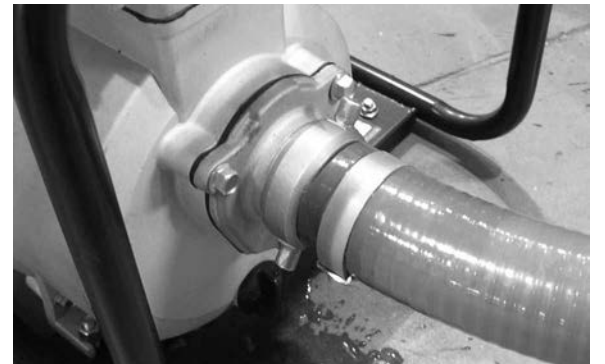

Figure 7
This water pump does not include water hoses and you will need to purchase 2 hoses of the required length having a diameter of 2". It is required to get a reinforced hose with or without 2" NPT to assemble to the inlet (2" NPT hoses do not require hose adaptors, see Fig.7), a non-reinforced hose will collapse on itself from the suction force and prevent water flow, which could cause damage to the engine and water pump machine seal.
- 1) If you purchased a 2" NPT reinforced hose, screw it onto the inlet thread as shown in Fig.7.
If this water pump is used to pump water from a river, it is very important to install the strainer basket to the inlet hose to prevent suction of rocks or weeds. Fig.7 shows the pump inlet and hose. Attach strainer basket to the other end of inlet hose.